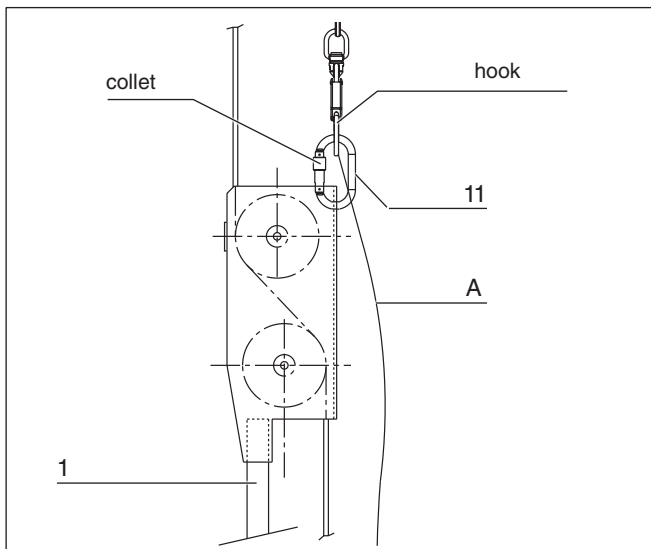

Fig. 7 - Fasten the safety wire rope
1. The operator on the ground must slowly pull the rope (A) attached to the hook of the fall arrest device BLOCFOR™ until the hook reaches him. (Fig.7)
2. Remove the clamp (7).
4. Securely fasten one end of the cord (A) to the hook of the safety wire rope. Then, unscrew the nut (Fig. 7) on the lower safety hook (11).
5. Firmly hold the safety wire rope at the sleeve and remove the safety hook (11) from the carrier stirrup.